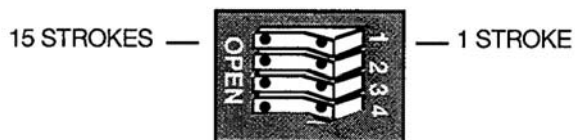

Figure 4-1. Stroke select switch (#1) with 15 strokes selected
2. To set the sample period for 15 strokes, push switch #1 to the left (toward the "OPEN" position) on the switch block S101. See Figure 4-1. Use a small screwdriver or ball point pen (not a pencil) to push on the dimple at the bottom end of the switch. The switch will snap over. Make sure the switch is set all the way to the bottom and not in between positions.